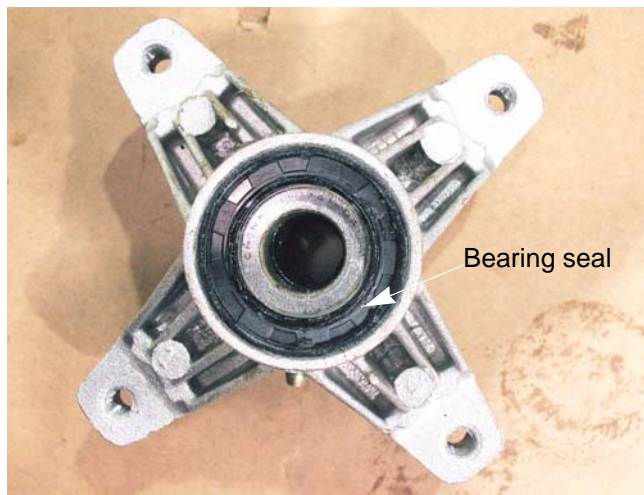

Figure 8.16
3. Remove the upper bearing seal. See Figure 8.16.